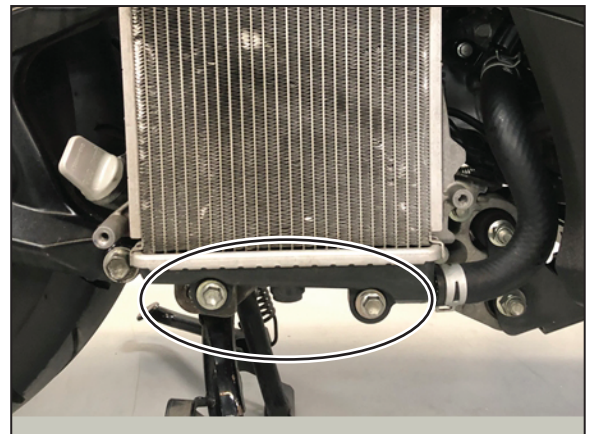

FIG. 2
- 3) Remove the two bolts at the bottom of radiator (see Fig. 2)